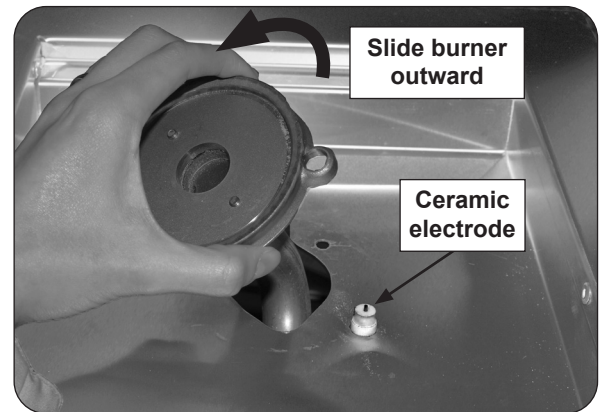

Fig. 31-2 Remove burner
5. Carefully lift the burner up and out, clearing the ceramic electrode (see Fig. 31-2), and pulling the burner tube away from the orifice located on the left side of the unit.